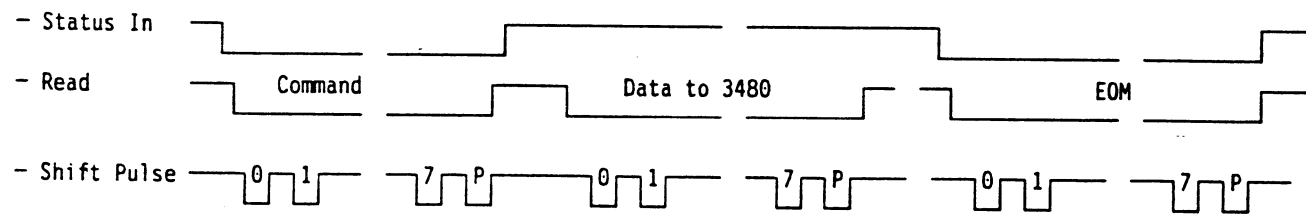

Figure 2. 'Put' Operation from MD to MA
1. **Open:** This function is executed in the MD and it resets the MD hardware adapter, activates the 'enable' line, and tests the data path between the MD and the MA. This test is accomplished by shifting a data byte (X'5A') from the MD SERDES through the 'serial data in' path to the MA SERDES, and returns the data to the MD SERDES through the 'serial data out' path. This test requires 18 shift pulses. See Figure 2.